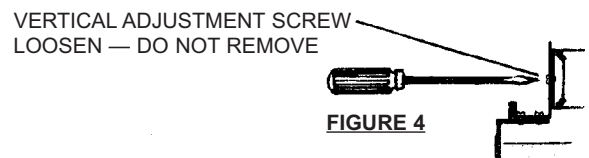

FIGURE 4
6. To adjust fixture to varying ceiling thickness, loosen screws retaining "C" brackets. Raise or lower fixture and tighten screws. (Figure 4)